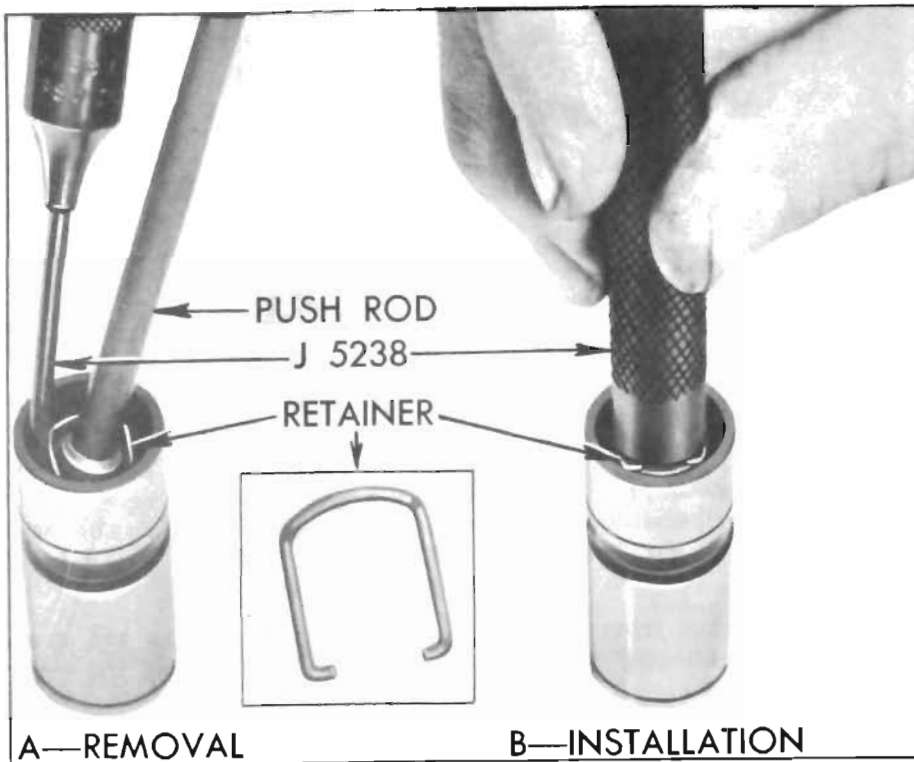

Figure 2-69—Removing and Installing Plunger Retainer
5. Disassemble each valve lifter by using a push rod to hold down the push rod seat while removing the plunger retainer from the lifter body using Retainer Remover J-5238. See Figure 2-69. Remove push rod seat and plunger from lifter body.
parts in end of body and depress with handle of Remover J-5238 until retainer engages groove in body. See Figure 2-69, View B.